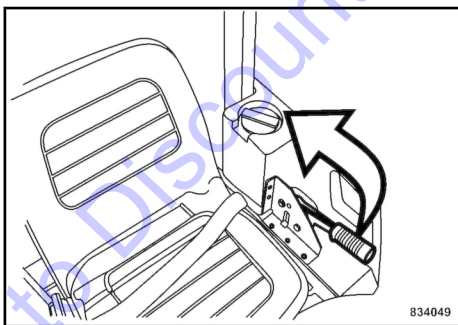

Fig. 103
2. Pull up the parking brake lever. ↪ Fig. 103.